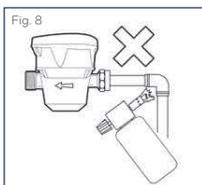

Fig. 8
10. When making repairs to pipework near to the meter installation, care should be taken to prevent damage to the meter. Do not solder or make any solder joints near the meter or meter connections (Fig. 8).